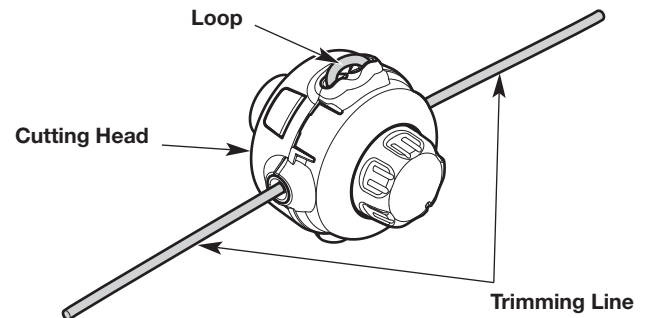

Fig. 25
1. Remove the old line from the cutting head. Push one end of the trimming line into the cutting head until a loop of line protrudes from the head. Pull the loop to remove the line (Fig. 25).
4. Pull the ends of the line until the line is tight against the cutting head. Make sure the ends of the line are of equal length (Fig. 25). If one end is longer than the other, push the longer end back through the cutting head partway and pull the shorter end out. If necessary, repeat this process until both ends are of equal length.
5. Press the exposed loop of trimming line until it is tight against the cutting head (Fig. 25).